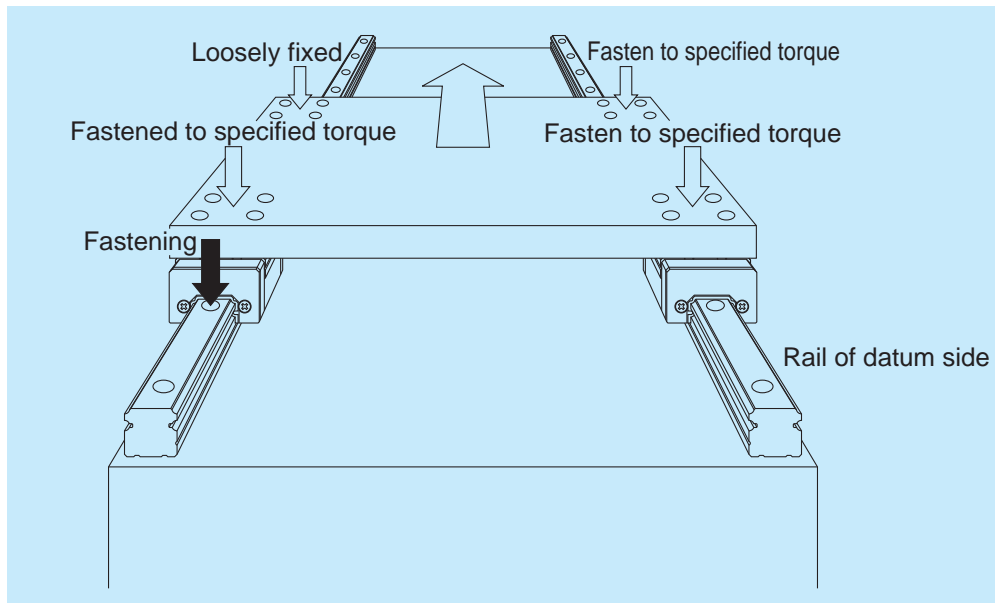

Fig. 9.18 Easy installation
- ④ Finally, tighten all bolts with standard torque.
**⑥-2) When table does not have a shoulder**
- ① Arrange the slides so that locations match to their mounting section of the table. Carefully place the table on the slides. Temporarily tighten bolts to secure slides.
- ② Since the table does not have a shoulder, immediately tighten the bolts further to secure slides.
- ③ Move the table by hand to confirm that there is no abnormality. Finally, tighten all bolts with standard torque.
- ① Carefully place the reference side rail on the machine base. Then tighten the bolts for installation with specified torque.
- ② Temporarily tighten the bolts on the adjusting side rail.
- ③ Tighten the slides on the reference side rail and one slide on the adjustment side rail with specified torque. Leave the rest of the slide on the adjusting side rail temporarily tightened (Fig. 9.18).
- ④ While moving the table with each pitch of the bolt for rail: With specified torque, tighten the rail mounting bolt which is located immediately adjacent to the slide on the adjusting side rail that had been finally tightened.